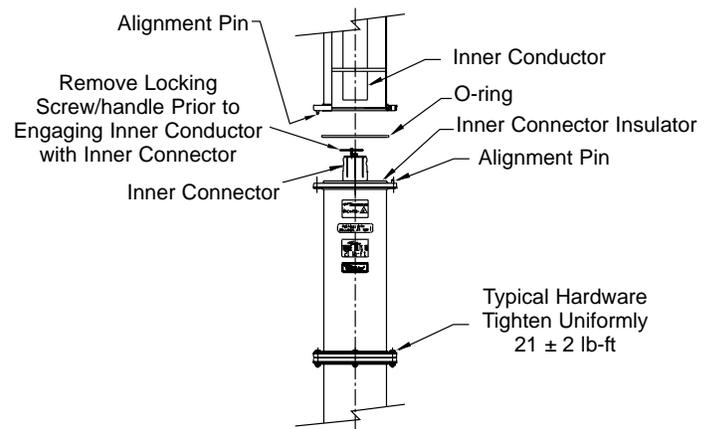

Figure 3
- 4 Align inner connector bullet of previously installed section with inner conductor, see Figure 3. Mate bullet with inner conductor and keep aligned. Align flange pin with corresponding flange alignment hole and mate flanges. Verify flange insulator is properly seated in appropriate flange groove. Firmly push flanges together while checking that O-ring remains in correct position.